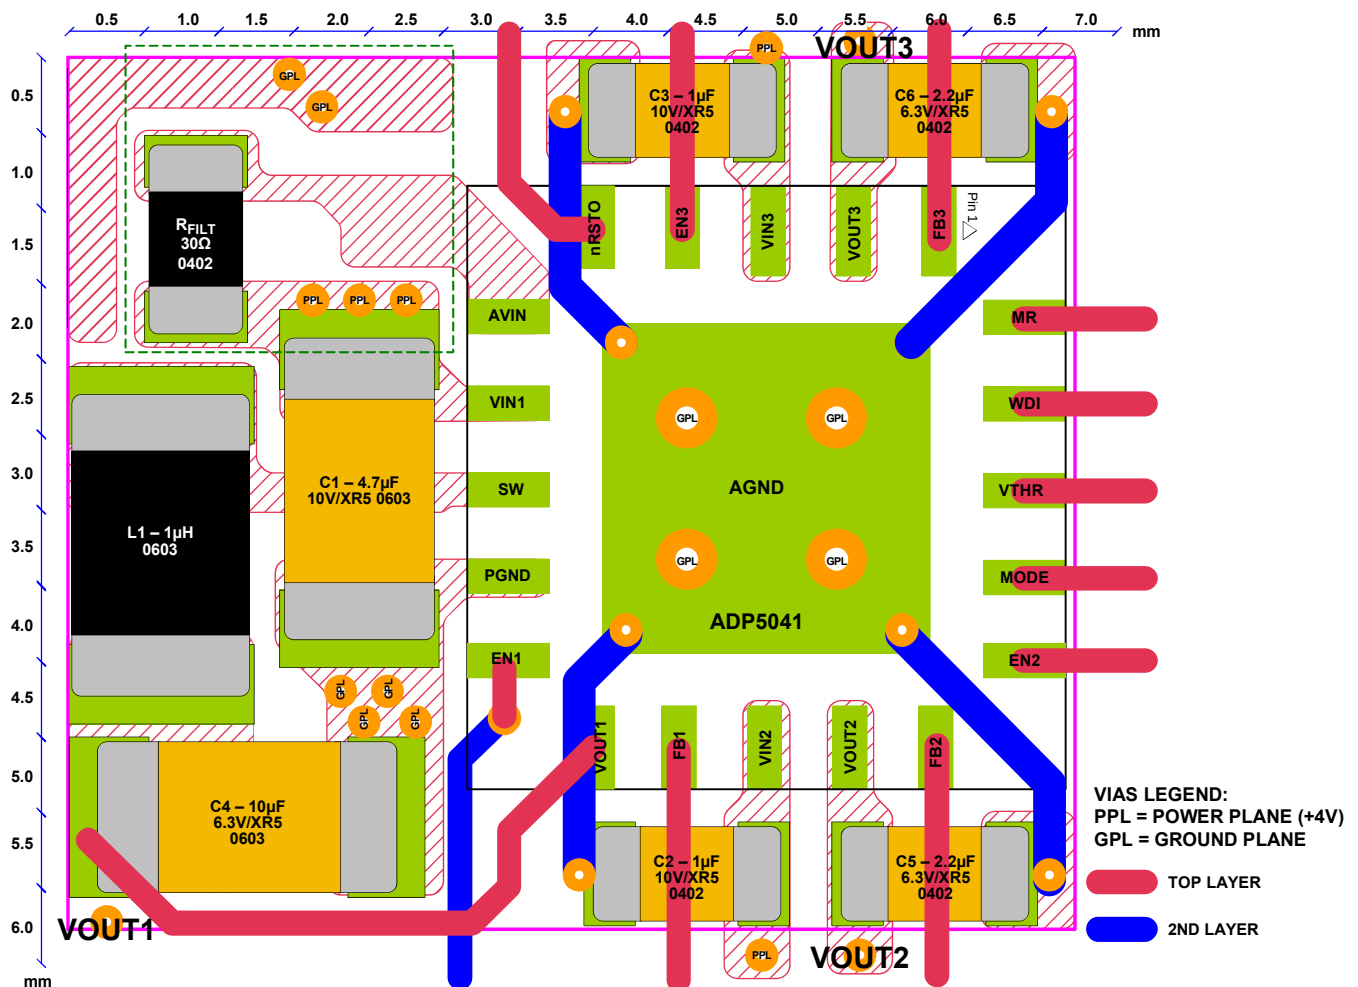

Figure 114. Suggested Board Layout
The typical θ_{JA} value for the 20-lead, 4 mm $\times$ 4 mm LFCSP is 38°C/W (see Table 7). A very important factor to consider is that θ_{JA} is based on a 4-layer, 4 inch $\times$ 3 inch, 2.5 oz copper, as per JEDEC standard, and real applications may use different sizes and layers. To remove heat from the device, it is important to maximize the use of copper. Copper exposed to air dissipates heat better than copper used in the inner layers. The exposed pad (EP) should be connected to the ground plane with several vias as shown in Figure 114.
See Figure 114 for an example layout.